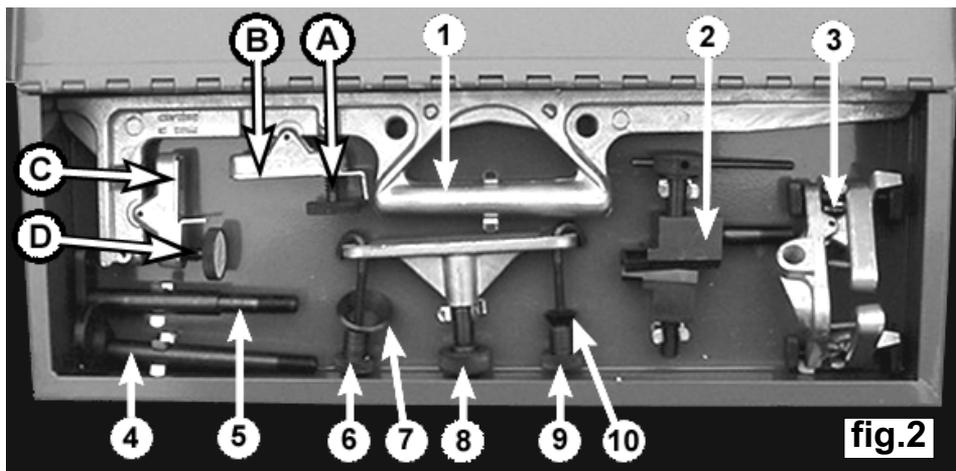

fig.2
- 5.1 To set the gauge up hold it in the vertical position and adjust the dial marked 'camber' (fig.2 - D) so that '0' is in line with the index mark.
- 5.3 Turn the camber dial (fig.2 - D) in either direction until the bubble in the spirit level (fig.2 - C) is centred. The number of graduations turned through represents the camber 'in' or camber 'out' depending on which way it was necessary to turn the dial.
- 7.1 Check that the floor is level using the camber gauge as follows. Turn the dial marked degrees (see fig.2 - A) so that '0' is in line with the index pointer. Place the gauge on the floor at right angles to the wheel to be checked. (Check floor level along the vehicles length when measuring castor angle). If the bubble in the spirit level is not centred then the floor is not level. Turn the dial in either direction until the bubble is centred. The slope of the floor in degrees is represented by the number of graduations turned through on the dial.